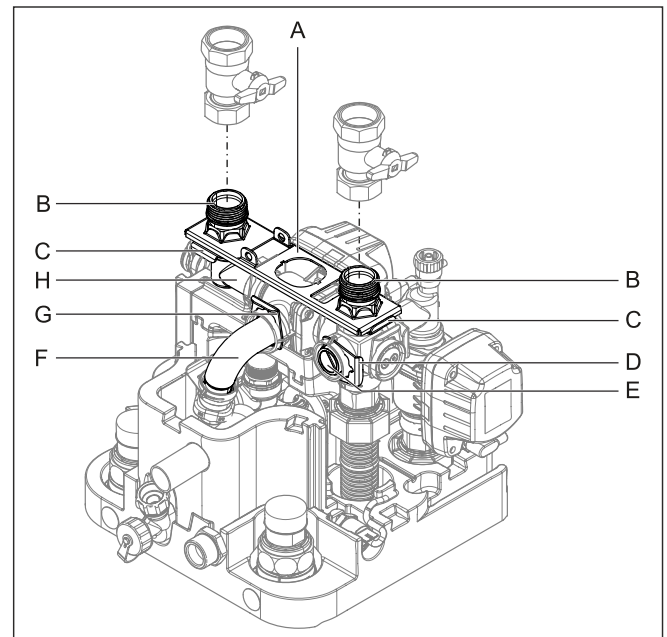
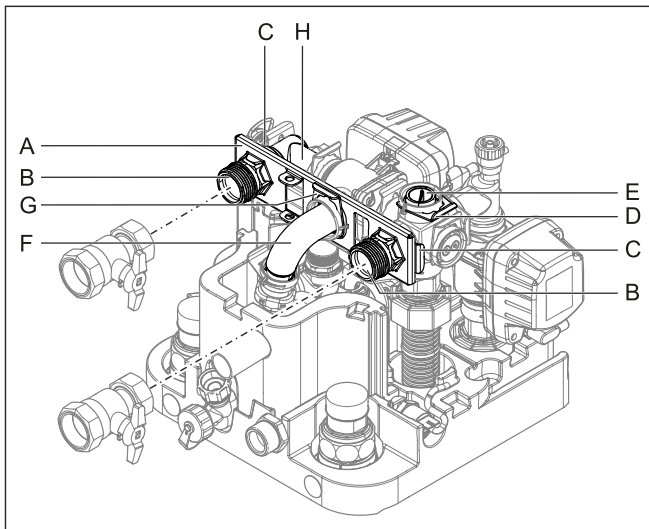

Fig. 4-17 Aligning the heating inflow and return flow upwards
Fig. 4-19 Heating inflow and return flow connections aligned to the rear
- 2 Pull the two plug brackets off the connection couplings (Fig. 4-17, item C).
- 3 Pull off the two connection couplings (Fig. 4-17, item B).
- 4 Remove the retaining plate (Fig. 4-17, item A).
- 5 Pull off the sealing plug bracket (Fig. 4-17, item D).
- 6 Pull out the sealing plug (Fig. 4-17, item E).
- 7 Turn the elbow (Fig. 4-17, item H) 90° to the rear.
- 8 Pull the plug bracket off the manifold (Fig. 4-17, item G).
- Carefully pull the manifold (Fig. 4-17, item F) so far backwards out of its horizontal mounting that the retaining plate (Fig. 4-19, item A) can be pushed vertically in between.
- Slide the retaining plate between the manifold and its horizontal mounting and insert the manifold (Fig. 4-19, item F) back into its mounting through the middle hole of the retaining plate.
- Secure the manifold with plug bracket (Fig. 4-19, item G) in its mounting again.
- Insert the two connection couplings (Fig. 4-19, item B) into the lateral mountings through the retaining plate.
- Secure the two connection couplings with plug bracket (Fig. 4-19, item C) in their mountings.
- Insert the sealing plug (Fig. 4-19, item E) into the upper mounting.
- Secure the sealing plug with plug bracket (Fig. 4-19, item D).